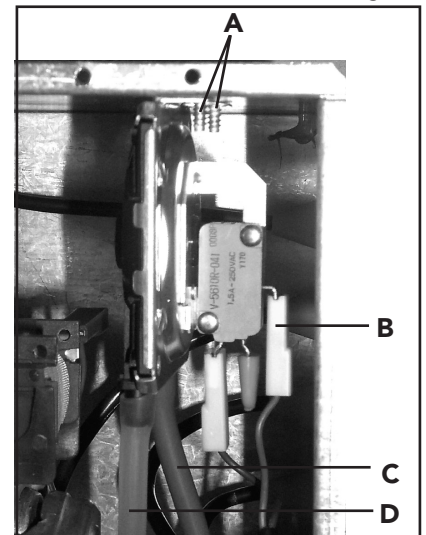

Fig. 24
**Air pressure switch** (fig. 24)
- Identify the sensor from figure 24